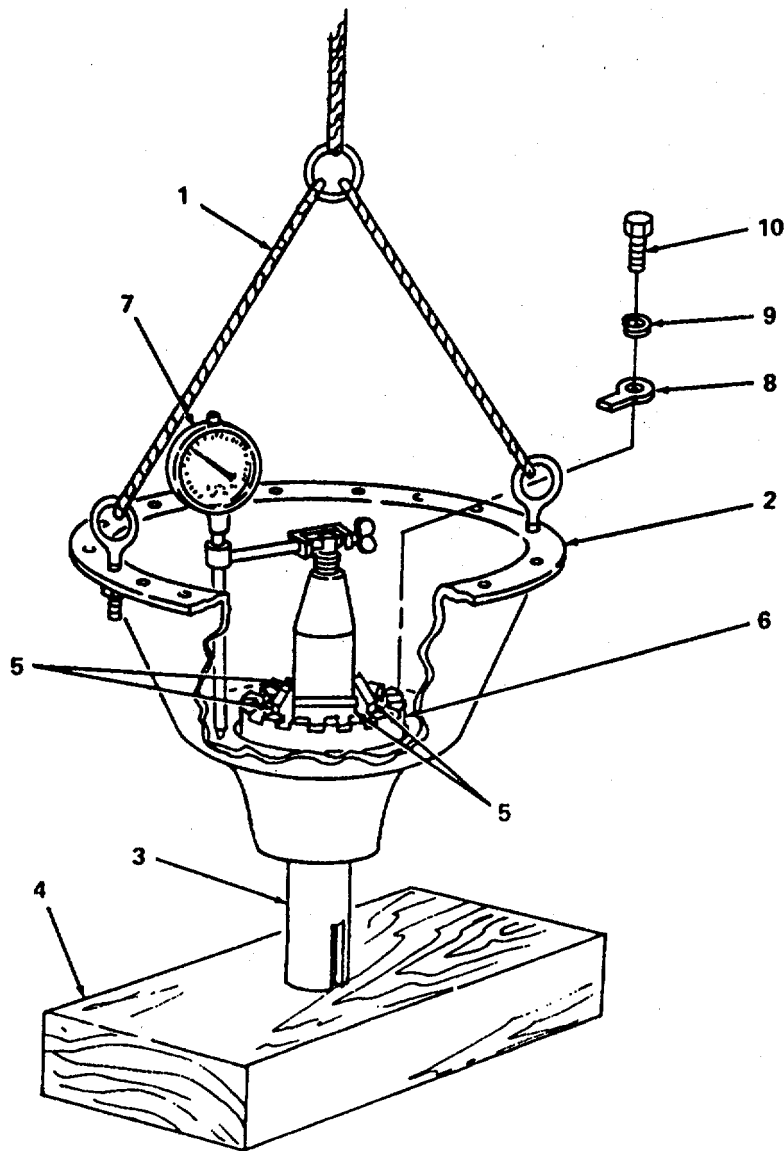

Figure 6-9. Adjusting Drive Shaft End Play.
(3) Adjust drive shaft end play.
- (a) Using a chain hoist or sling (1, figure 6-9), suspend housing (2) with output end of drive shaft (3) pointing down.
- (b) Lower housing until drive shaft rests on wood block (4) on floor.
- (c) Insert four pieces of shim stock (5) between bearing retainer (6) and drive shaft (3).